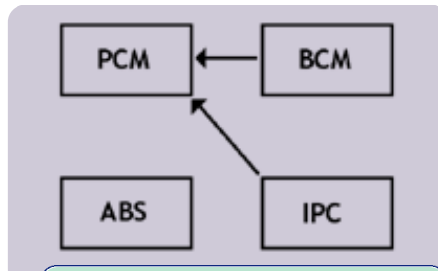

Fig.2 More Than One Box With Same U-Code
but more than one, report that Yes, they have DTCs set and are predominately U-Codes. See Table 2 and Figure 2.
C. The same U-Code is stored in 2 or more of the controllers. See Figure 2.